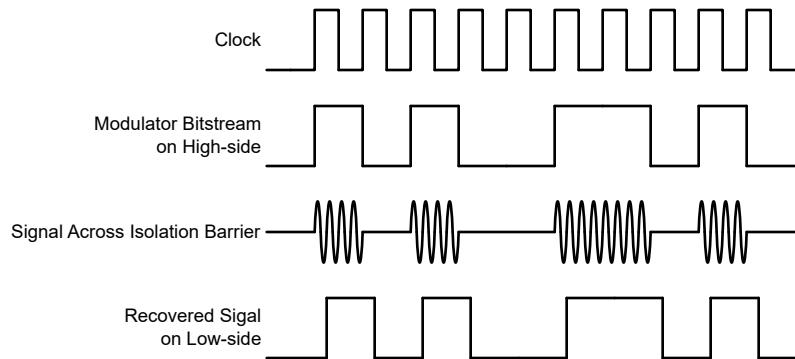

Figure 7-3. OOK-Based Modulation Scheme
The AMC1306M25E uses an on-off keying (OOK) modulation scheme, as shown in Figure 7-3, to transmit the modulator output bitstream across the SiO_2 -based isolation barrier. The transmit driver (TX) shown in the Functional Block Diagram transmits an internally generated, high-frequency carrier across the isolation barrier to represent a digital one and does not send a signal to represent a digital zero. The nominal frequency of the carrier used inside the AMC1306M25E is 480 MHz.